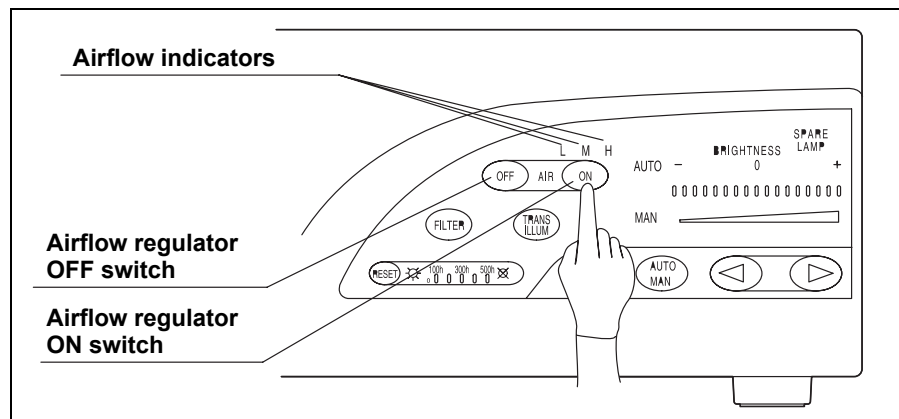

Figure 4.7
1. Confirm that one of the airflow indicators (“L”, “M”, and “H”) is lit. If no indicator is lit, press the airflow regulator ON switch once. Then confirm that a beep is heard and one of indicators (“L”, “M”, and “H”) is lit (see Figure 4.7).